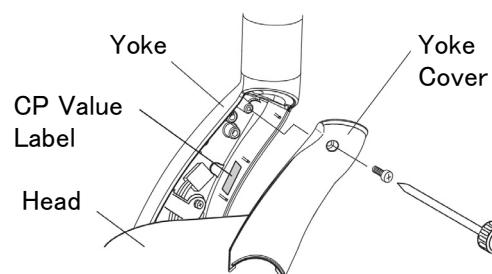

Fig. 2
3. Remove the screw and yoke cover. (Fig. 2)